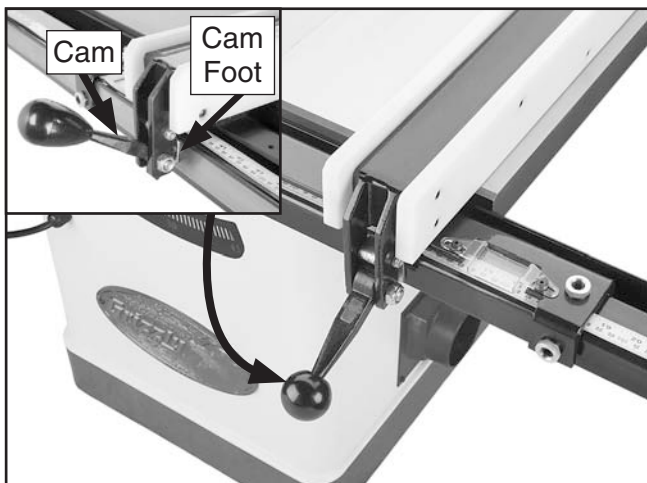

Figure 21. Fence installed on rails.
- Place the fence on the rails (on the right hand side of the blade, as shown in **Figure 21**).